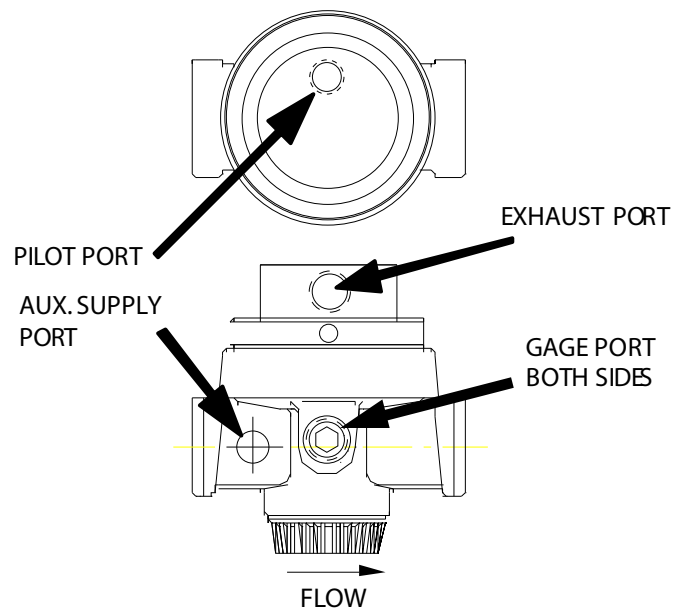

Figure 4
1. Connect the primary supply air to the IN port (Figure 4) of the air-piloted pressure regulator and the inlet port of the electronically operated proportional pilot valve.